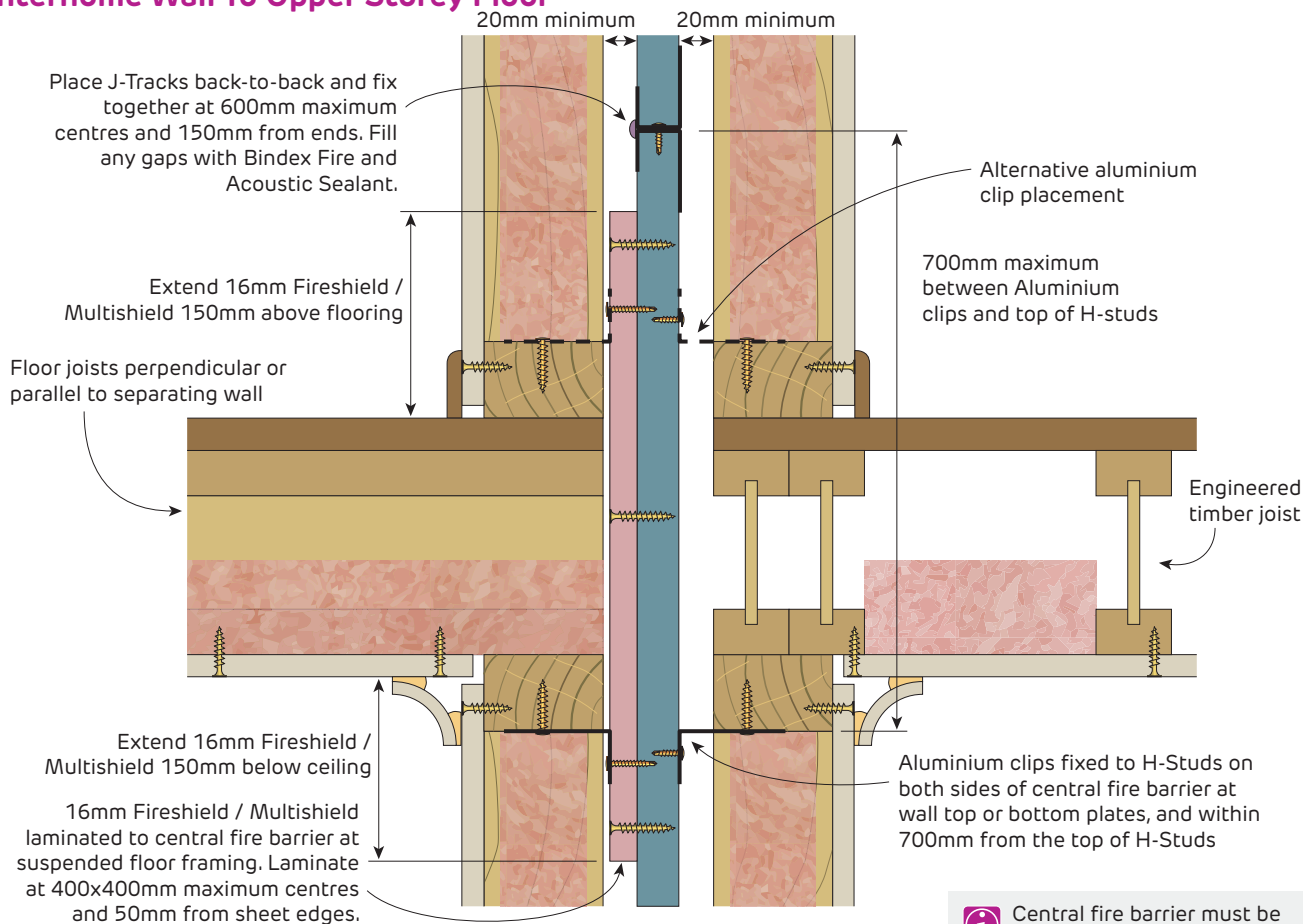

FIGURE 30 Interhome Wall to Upper Storey Floor
- > 150mm below ceilings [Figures 30 - 36, 38 - 41, 43, 47 - 48, 55]